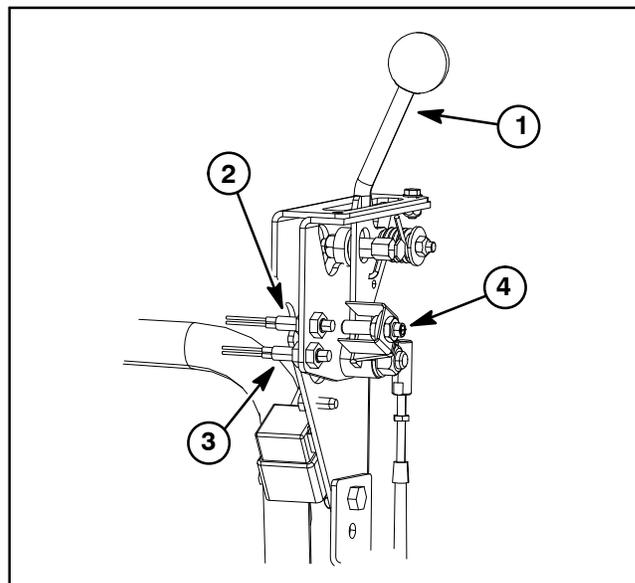

Figure 14
The neutral and mow switches are used to determine when the functional control lever is in the NEUTRAL or MOW position. These switches are identical and are normally open reed switches. They close when the actuator comes in close proximity to the switch. The switches are attached to the functional control lever bracket under the console panel (Fig. 14). The actuator is attached to the functional control lever.
4. Place the functional control lever in the NEUTRAL position. The NEUTRAL switch should be closed (continuity) and the MOW switch should be open (Fig. 14).
5. Place the functional control lever in the MOW position. The NEUTRAL switch should be open and the MOW switch should be closed (continuity) (Fig. 14).